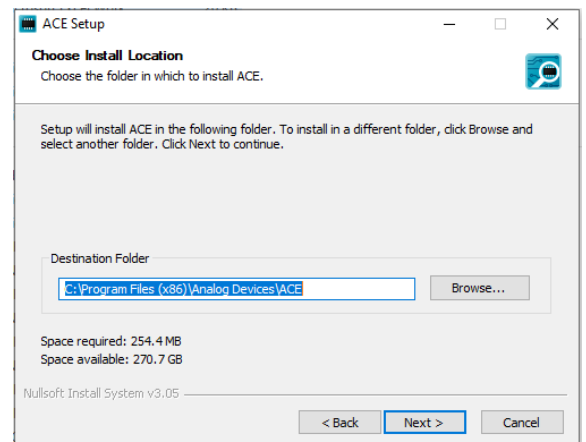

Figure 11. Choose Install Location
6. Click **Browse...** to choose the installation location and click **Next>** (see Figure 11).